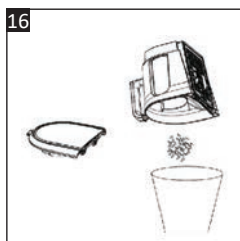

Fig. 16
3. Empty the contents in a rubbish bin (Fig. 16).